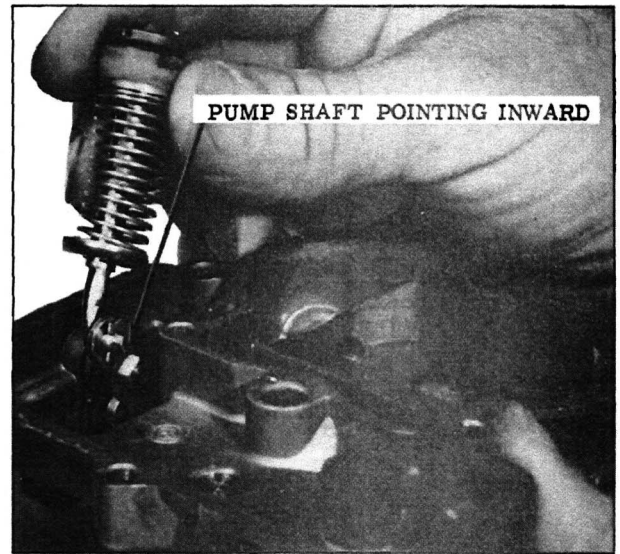

Fig. 31 Attaching Pump Assembly
- Attach pump assembly to inner arm with pump shaft pointing inward, and install retainer. (See Fig. 31)